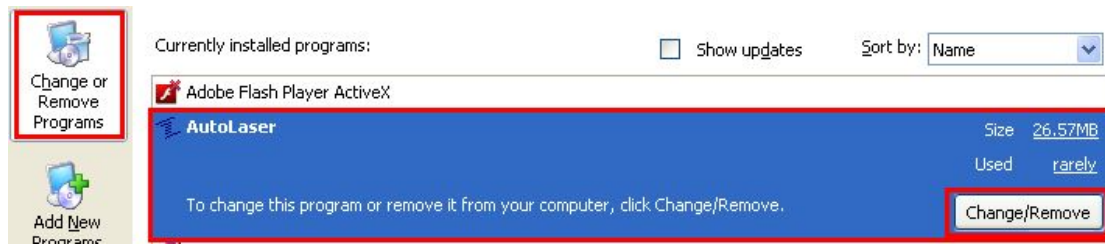

Figure 1-24
- 3) Find [AutoLaser] in [Modify or Delete Programs] as shown in Figure 1-24 and click the “Modify/Delete” button at the right side.